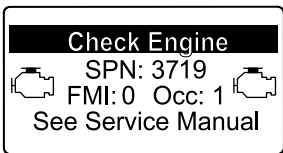

Figure 85
- Engine warning SPN 3719, FMI 0 (Figure 85)